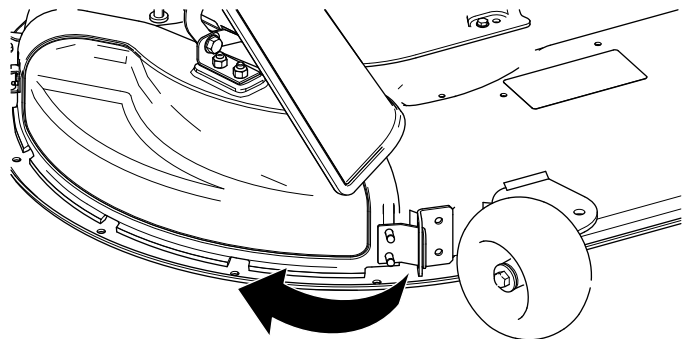

Figure 14
4. Pivot the discharge cover back and toward the deck so that the discharge cover aligns with the mower deck (Figure 14).